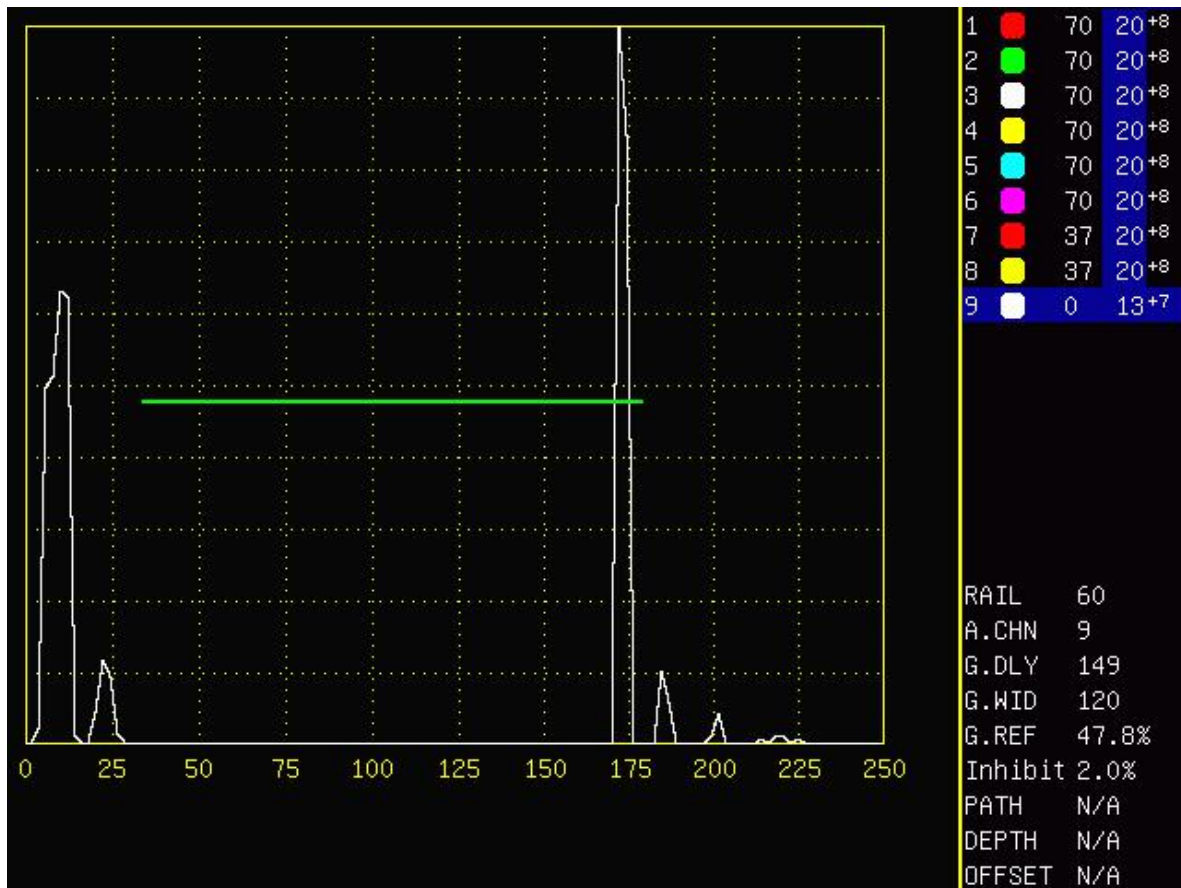
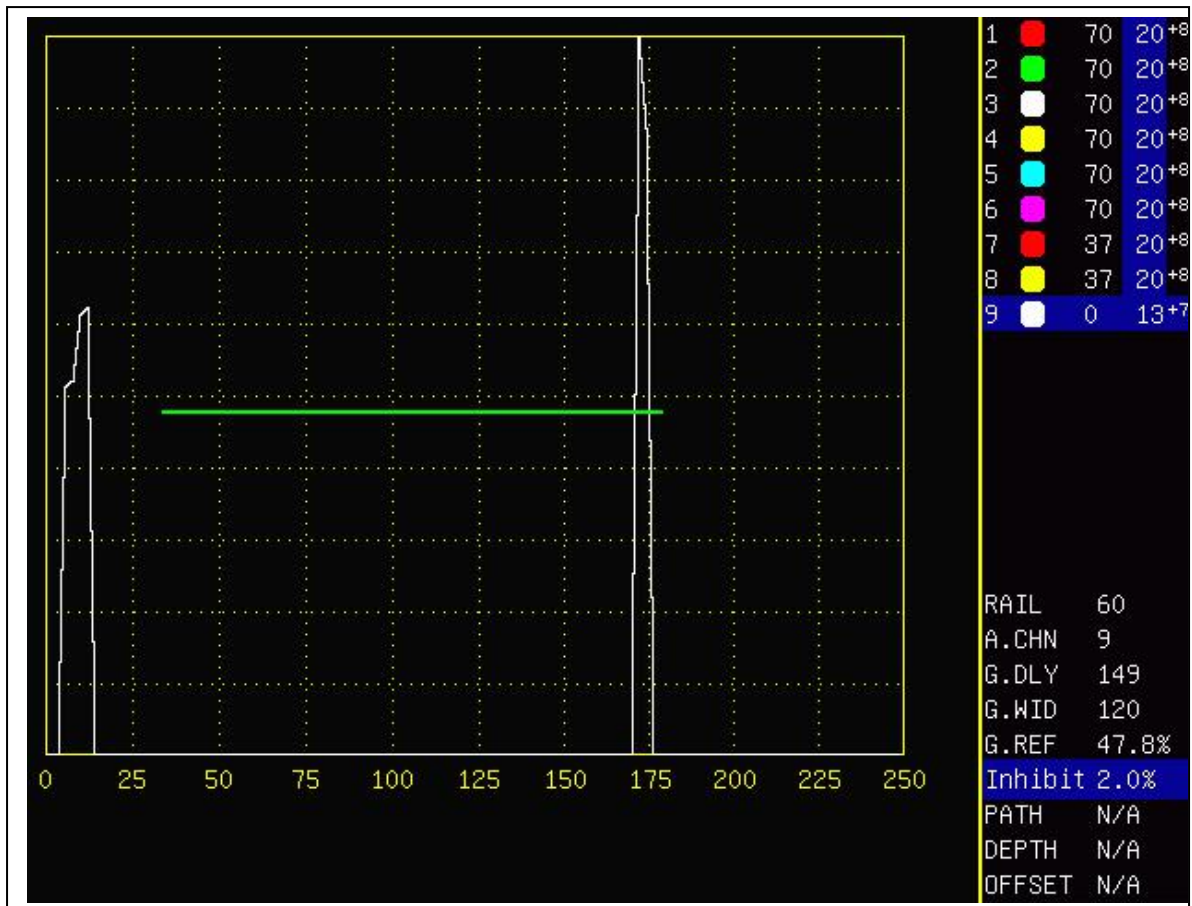
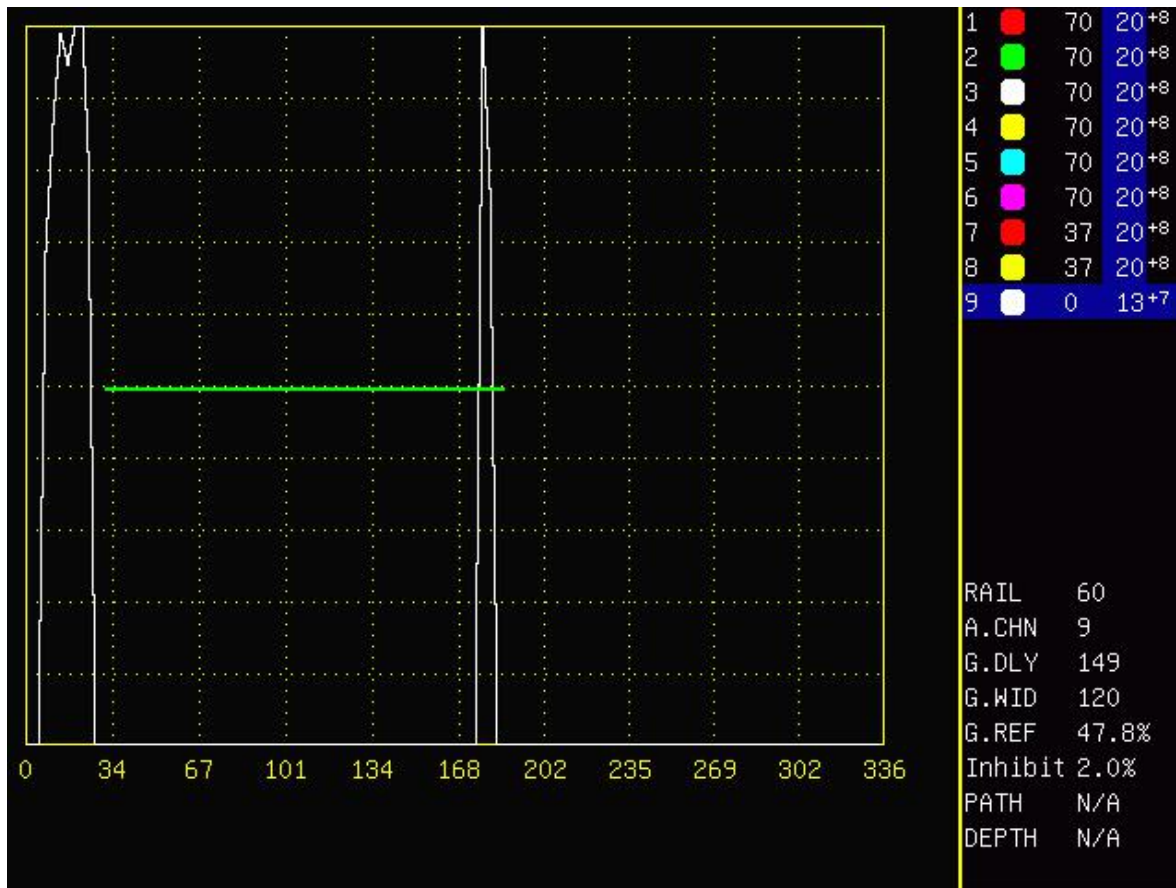

Figure 10 Setting Up the Sampling Gate
Figure 12 Suppression Setting
Figure 13 Differential Attenuation
In A-scan, press numerical key 1~9 to selected the desired channel. The selected channel will be highlighted blue as shown in the following Figure 10.
As an example, how to set up the gate of 0 degree channel is shown in the following Figure 10. In Figure 10, the green line is the sampling gate of used in the B-scan.
To change the gate delay, first press , which means you are adjusting the gate delay. Then press “+” or “-” key to increase or decrease the gate delay. If you press and hold “+” or “-” key, the gate delay will be keep on increasing or decreasing. The green line in Figure 10 will move left or right; At the same time, G.DLY at the right side of the screen will be updated accordingly.
To change the gate width, first press , which means you are adjusting the gate width. Then press “+” or “-” key to increase or decrease the gate width. If you press and hold “+” or “-” key, the gate width will be keep on increasing or decreasing. The length of the green line in Figure 10 will be increasing or decreasing; At the same time, G.WID at the right side of the screen will be updated accordingly.
The following Figure 10 shows the gate setting of 0 degree channel.
As shown in the following Figure 12 is the zero degree channel A-scan signal after suppression. When it is compared with Figure10, one can see the noise is get rid of and the signal is much easier to recognize.
Suppression is donated by the percentage and displayed at the bottom right corner of the screen as shown in Figure12. The whole percentage of A-scan is 100%, the suppression setting is 1~99%.
Further more, one can also use differentiation attenuation to make the signal even clear as shown in Figure 13. Shown in Figure 13 is the signal after differentiation is turned on. When it is compared with the signal in Figure 12, one can see the signal is much clear.
In single channel A-scan, when the main gain column is selected ( the blue high lighted column in Figure 13, the gain change made the gain adjustment key will be updated in the blue high lighted column.
The A-scan setting here is different from the single channel A-scan described before. The A-scan here shows the signal from the trigger pulse. In this particular case, it will include the sound travel inside the wheel probe. The purpose of A-scan setting described here is mainly used to set up the rail interface. As shown in Figure 10 described before, the instrument can show the height of the rail, the depth of the rail and sound distance scale. All these